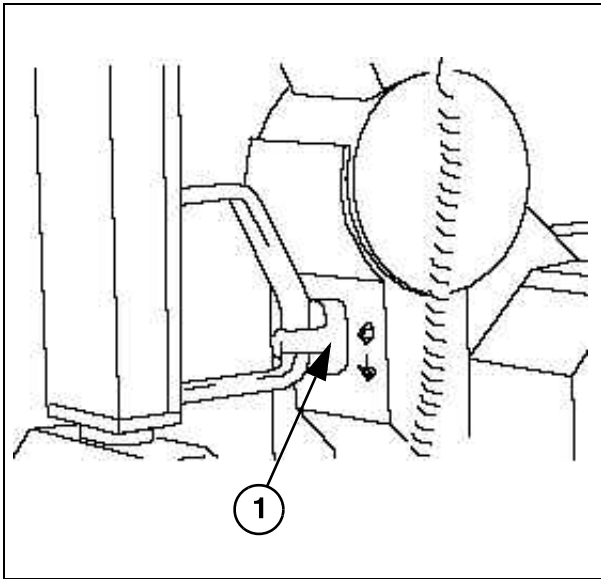

Fig. 8:
- Check the transport safeguard (Fig. 8 / p. 31) for mechanical damage. In case of damage, the transport safeguard must be replaced.